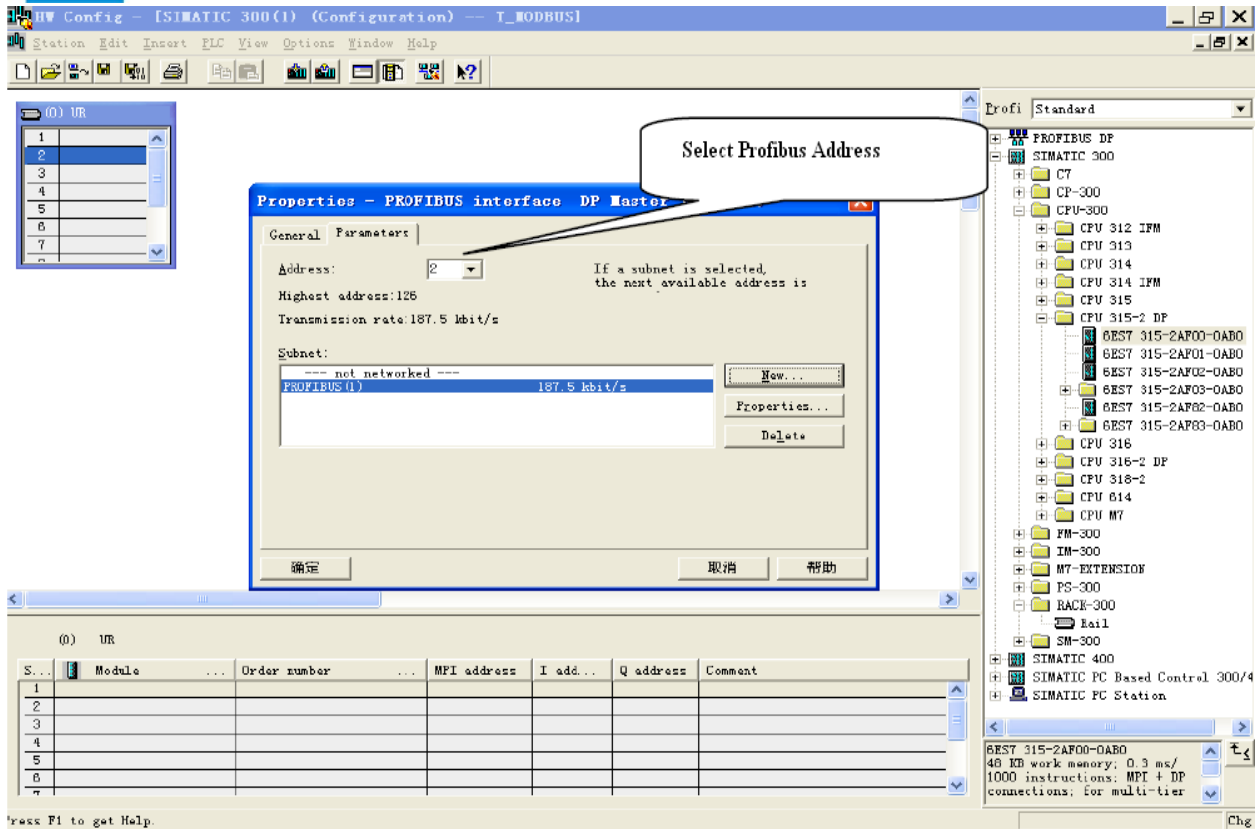

Figure 11
4. Select a PROFIBUS DP master address, Figure 11: